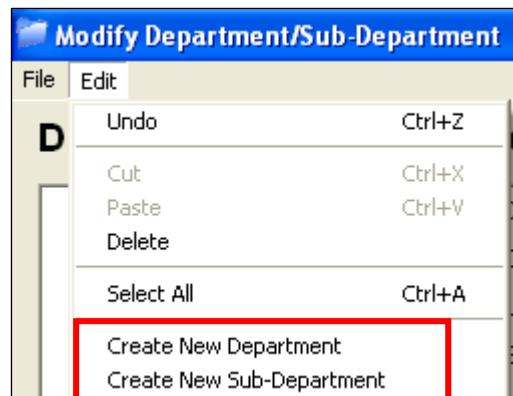

Figure 174
2. To add a new department or sub-department select 'Create New Department' or 'Create New Sub-Department' depending on the one you want to create (see Figure 174).